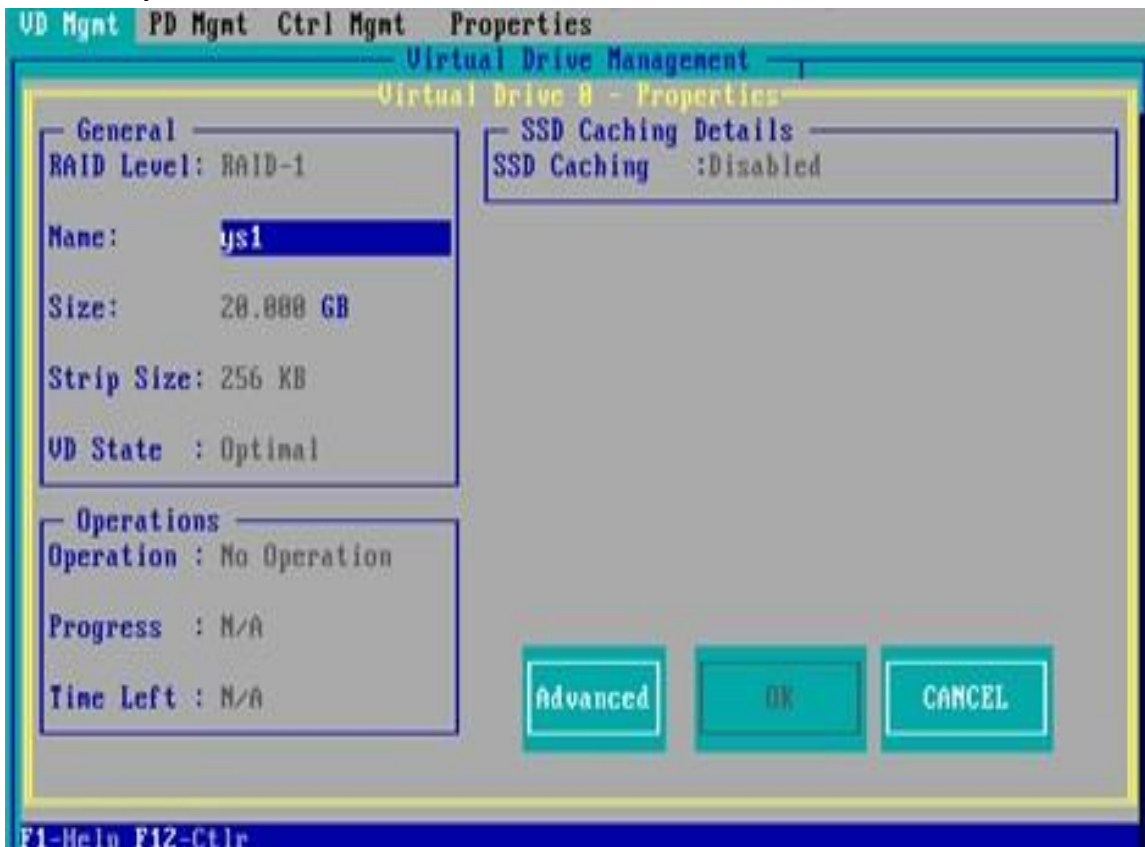

Figure 6-91
- i) Select the raid to be viewed and press enter to view the detailed information of the raid (including raid name, level, disk information, etc.), as shown in figure 6-91.